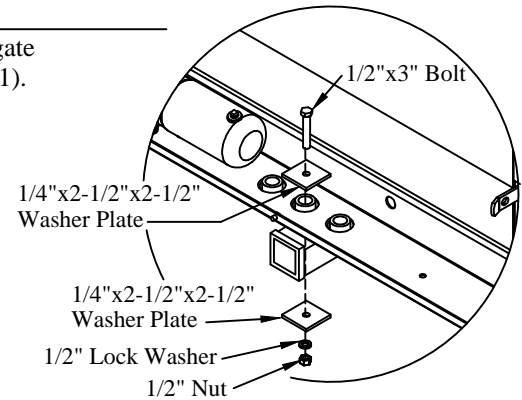

Figure 21: Lower bracket support (Class 4 hitch).
- 1. Assemble** the supplied hardware through the center hole in the bottom of the liftgate mainframe and the center hole in the factory hitch plate on the truck (Figure 21).